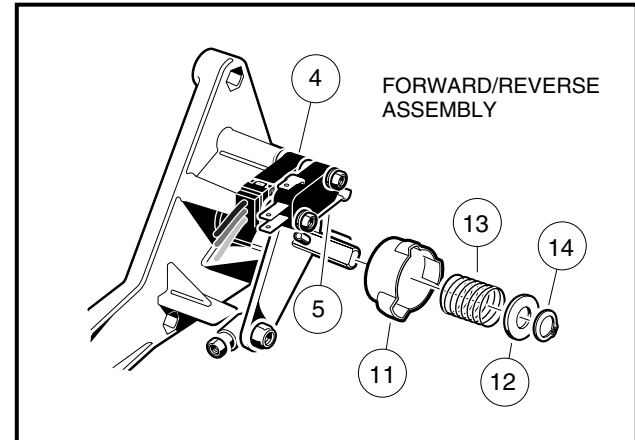

Figure 12-22 Lockout Cam
3. Remove the external snap ring (14) (Figure 12-22, Page 12-18).
4. Remove the plastic washer (12) and the spring (13).
5. Remove the cam (11).
1. Install the cam (11) (Figure 12-22, Page 12-18).
2. Install the spring (13) and the plastic washer (12).
3. Install the external snap ring (14) into the groove on the shaft. The lockout limit switch should be activated only when the Forward/Reverse handle is in NEUTRAL.